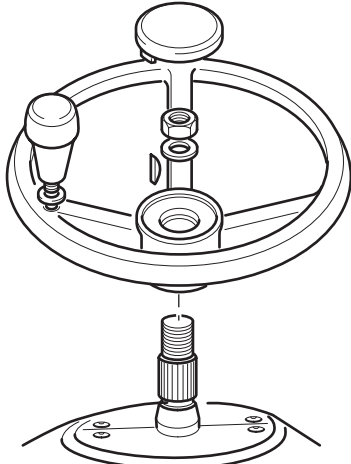

Fig 135.
- 1 Remove the steering wheel. → Fig 135. (□ B-132).